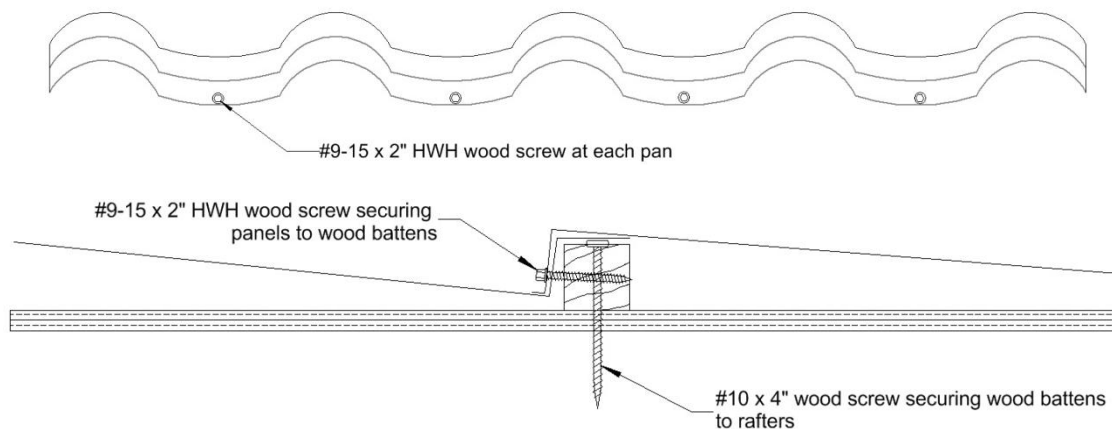

Figure 1: Terrabella Premium Panels Fastened to Battens
Terrabella Premium Panel Attachment: The panels are secured to the battens with four (4) No. 9-15 x 2" long HWH self-drilling screws per panel. The screws are installed $7\frac{1}{4}$ " from each edge of the panel and spaced $8\frac{7}{8}$ " between the edge screws at the vertical section of the head lap securing the panel to the wood batten. Refer to Figure 1 for attachment details.